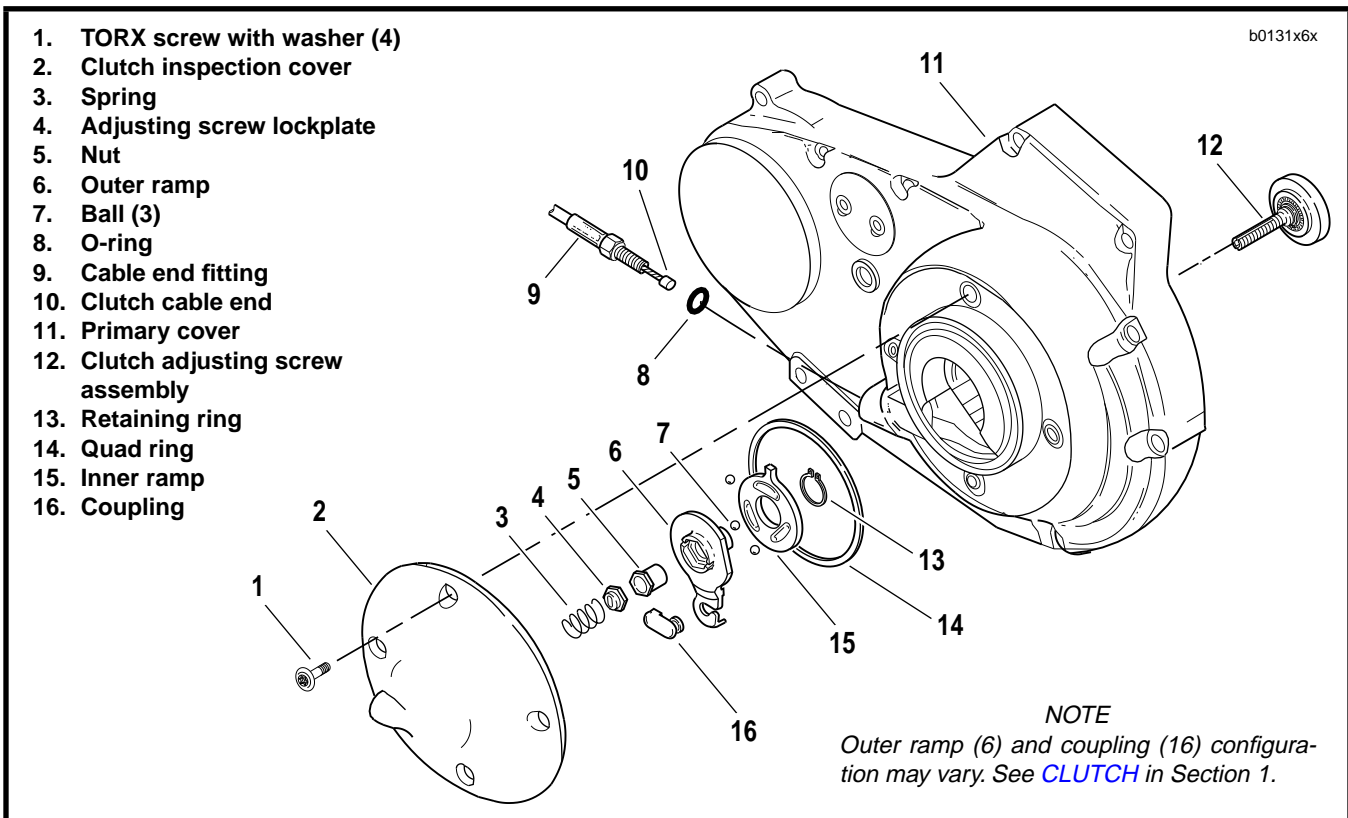

Figure 2-52. Clutch Release Mechanism
2. See **Figure 2-52**. Remove four TORX screws (1) with washers and clutch inspection cover (2). Do not damage or dislodge quad ring (14) in primary cover (11).
3. Slide spring (3) with attached hex lockplate (4) from flats of adjusting screw (12).
4. Turn adjusting screw clockwise to release ramp and coupling mechanism. As the adjusting screw is turned, ramp assembly moves forward. Unscrew nut (5) from end of adjusting screw.
5. Remove hook of ramp (6) from button at the rear of cable end coupling (16). Remove cable end (10) from slot in coupling.
6. Turn cable end fitting (9) counterclockwise to remove clutch cable lower section from primary cover (11). Remove O-ring (8) from cable end fitting.
1. See Figure 2-52. Install O-ring (8) over cable end fitting (9) of clutch cable lower section. Turn fitting clockwise to install into primary cover (11). Tighten fitting to 3-5 ft-lbs (4.0-6.8 Nm).
2. Fit coupling (16) over cable end. Place hook of ramp around coupling button and rotate assembly counter-clockwise until tang on inner ramp (15) fits in slot of primary cover (11).
3. Thread nut (5) on adjusting screw (12) until slot of screw is accessible with a screwdriver. Fit nut hex into recess of outer ramp (6) and turn adjusting screw counter-clockwise.